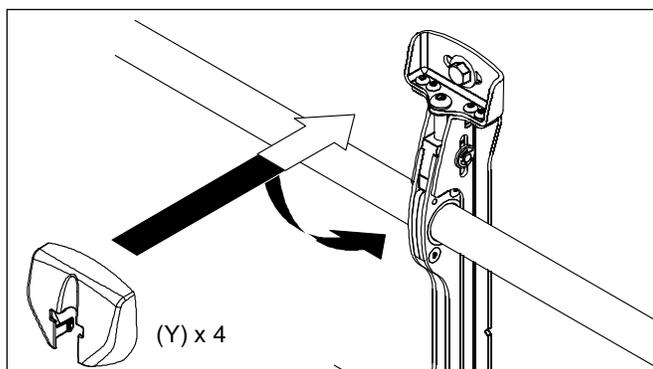

Figure 10
1. Attach wall bracket caps (Y) to top and bottom of both wall brackets. (See Figure 10)